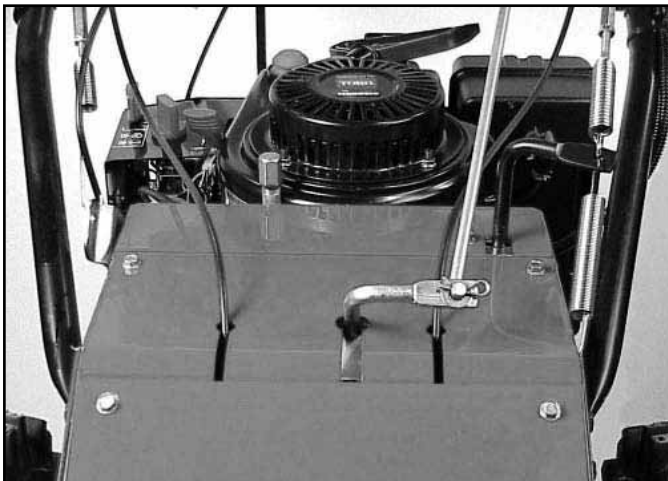

Fig 115
1. Disconnect shift linkage and remove tires (Fig 115).